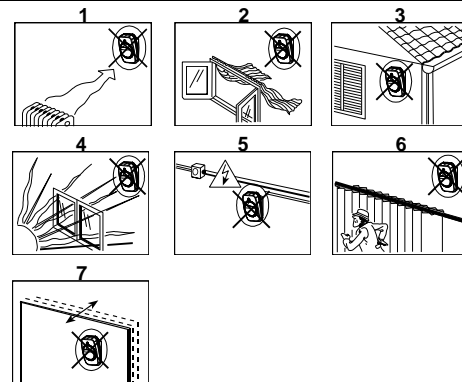

Figure 2. General Guidelines
2.1 General Guidance (see Fig. 2)